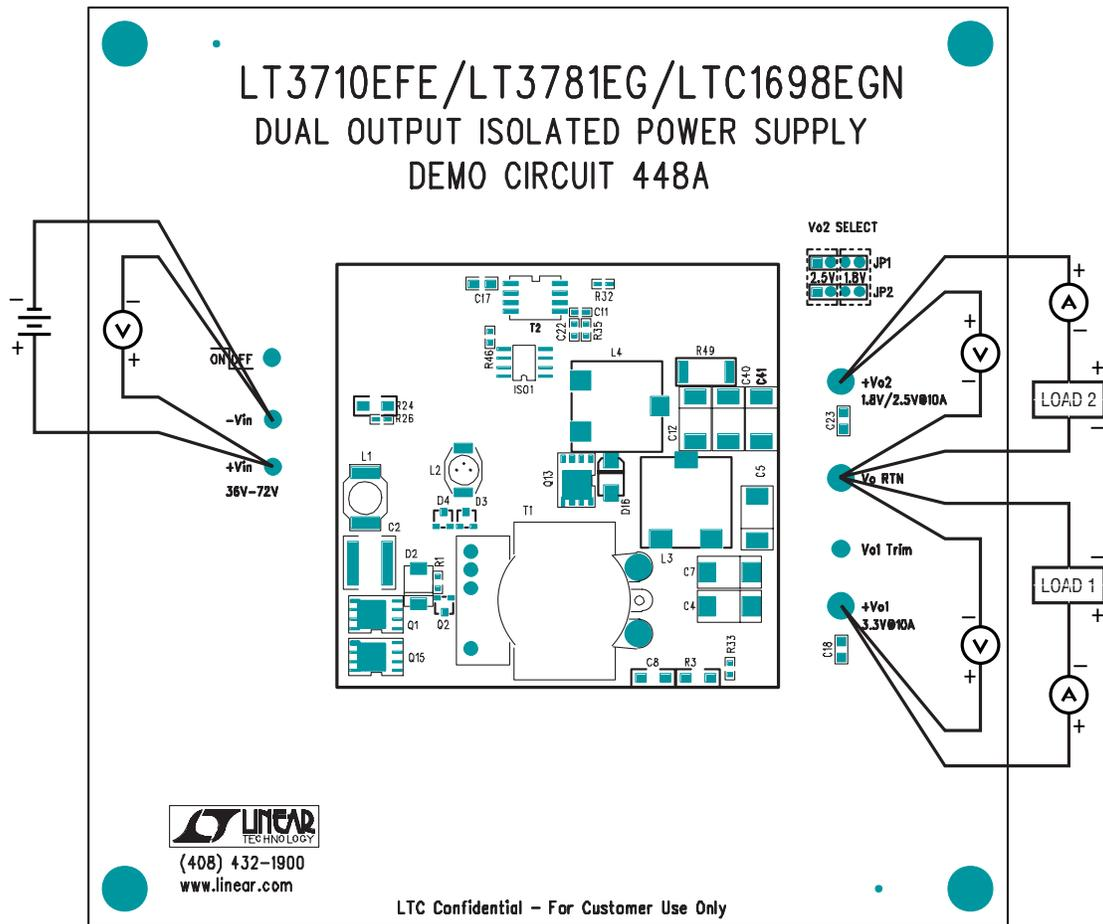

Figure 1. Proper Measurement Equipment Setup
Demonstration circuit DC448 is easy to set up to evaluate the performance of the LT3710, LT3781 and LTC1698. Refer to Figure 1 for proper measurement equipment setup and follow the procedure below:
5. Connect the 3.3V load (Load 1 in Figure 1) between  $+V_{o1}$  and  $V_o$  RTN; connect the 1.8V/2.5V load (Load 2 in Figure 1) between  $+V_{o2}$  and  $V_o$  RTN.